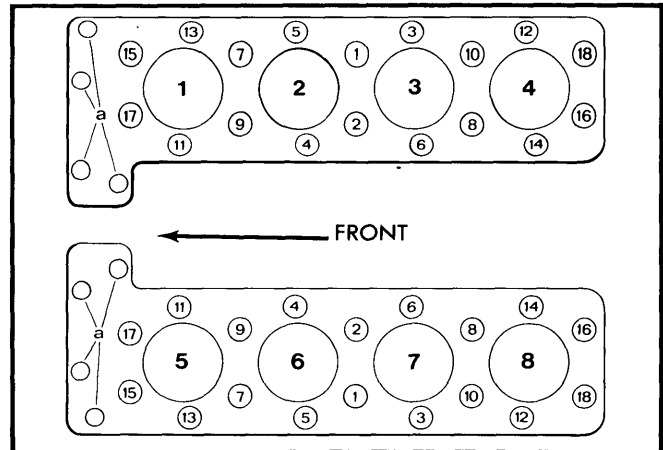

Fig. 1 Cylinder Head Tightening Sequence (Loosen in Reverse Order)
3) Unbolt exhaust pipe at manifold. Remove timing chain tensioner. Remove timing chain guide rails. Mark camshaft sprocket and timing chain. Carefully remove camshaft sprocket, letting timing chain fall down. Remove cylinder head bolts in reverse of tightening sequence. (Fig. 1).